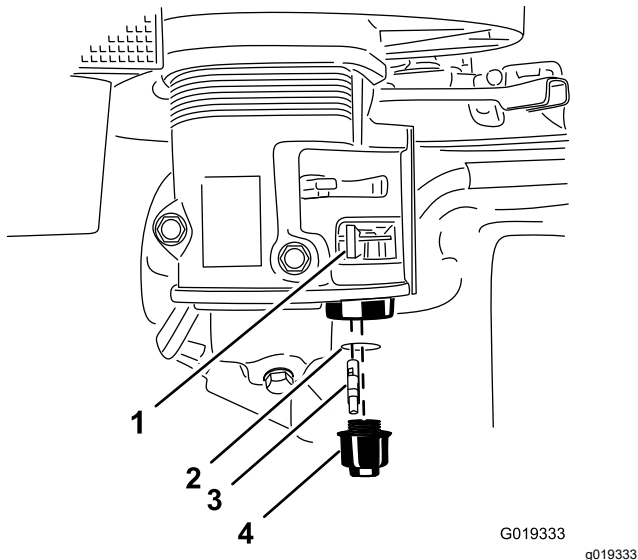

Figure 52
4. Move the lever of the fuel valve to the OFF position, all the way to the left (Figure 52).
5. Unscrew the fuel-sediment cup (Figure 52).
6. Remove and retain the fuel filter and O-ring (Figure 52).
9. Install the fuel filter in the bottom of the carburetor (Figure 52).